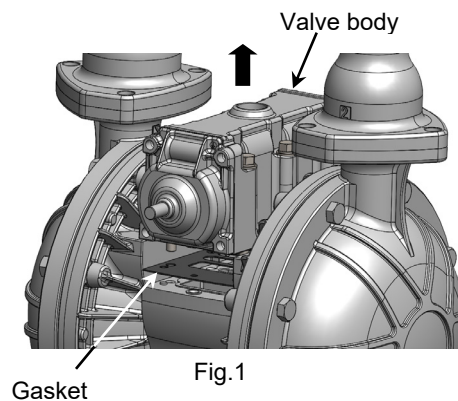

Fig.1
- 2) Loosen the valve body fixing bolts, and remove the valve body and gasket from the pump body. (Fig.1)